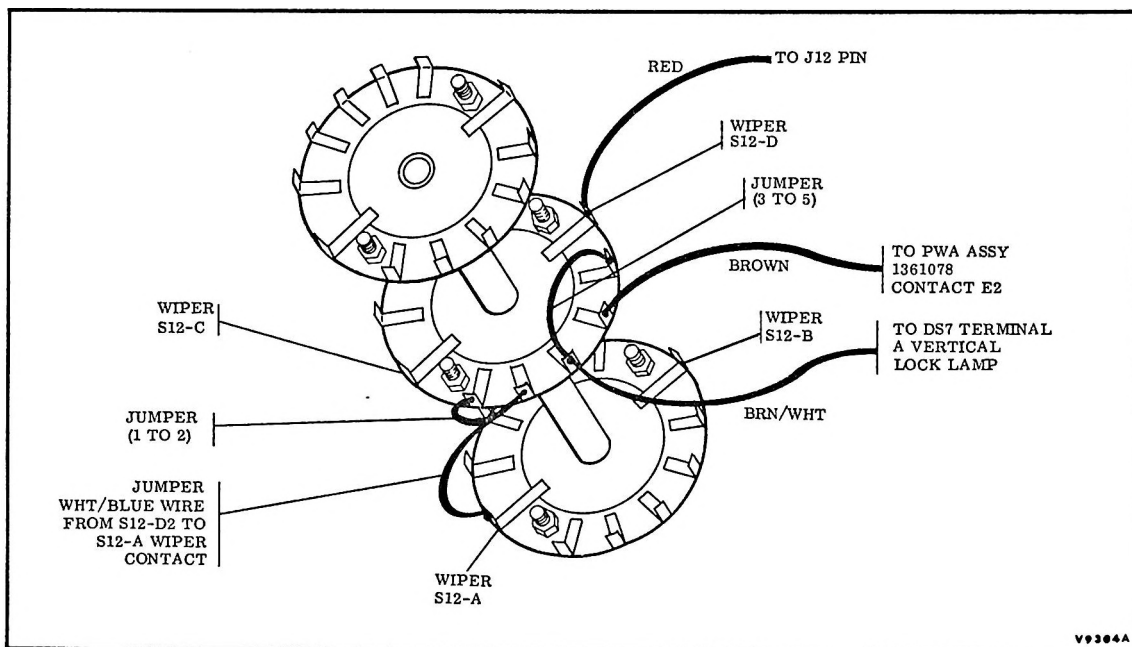

Figure 2-9. Servo Mode Switch S12 Modification
i. Route and solder the red lead from J12 to the wiper contact of the SERVO MODE switch S12-D as shown in Figure 2-9.
j. Make the following connections at switch S12 as shown in Figure 2-9.